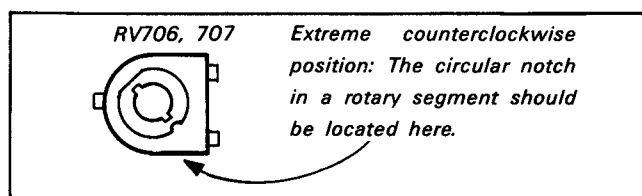

Fig. 7-15.
Note: Turn RV707 (WHITE CLIP (1)) to its extreme counterclockwise ($\curvearrowright$) position in advance. (See Fig. 7-15)